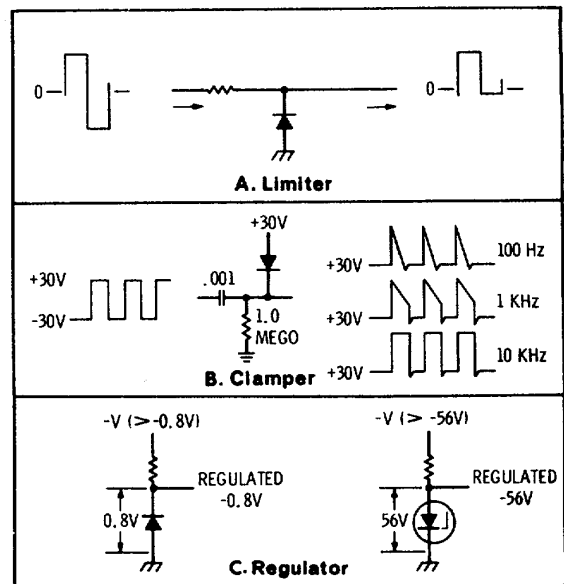

Figure 8-9. Basic Diode Circuits.
**8-35. Diode Limiter or Clipper.** The limiter or clipper is a circuit which removes positive or negative peaks from a waveform. It can be used either as a waveform shaping circuit or as a protective device to prevent damage from excessive voltages. Figure 8-9, Schematic A, shows a limiter which prevents the negative peak of the pulse from exceeding about X.6 volt. Note that for a conducting silicon diode the cathode voltage is about 0.6 to 0.8 volt more negative than the anode.
**8-36. Diode Clamp.** The clamper is a circuit which establishes either the positive or negative peak of a waveform at a particular dc reference voltage; in other words, it provides a definite baseline voltage for the waveform. Figure 8-9, Schematic B, shows a clamper which provides a baseline of about +20 volts for a negative pulse.
**8-37. Diode Regulator.** A diode regulator uses either the constant reverse-bias breakdown voltage characteristic of a breakdown diode or the constant forward-bias voltage drop characteristic of a silicon diode. Power supply reference voltages are generally provided by breakdown diodes which maintain a constant voltage when supplied with a reverse-bias voltage greater than their specified breakdown voltage. Regulated voltages can also be provided by a forward-biased silicon diode which maintains a constant 0.6 to 0.8 volt drop. Figure 8-9, Schematic C, shows connections for both types of diodes.